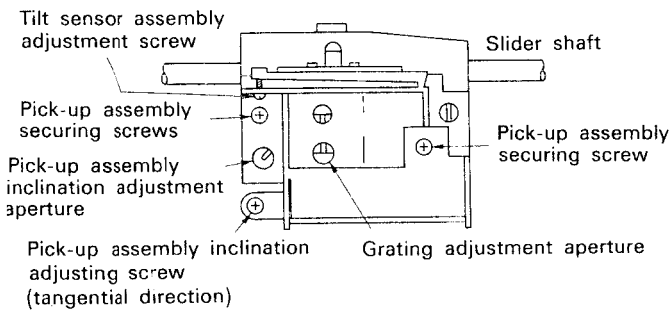

Fig.6-2 Pick-up assembly peripherals.
2. Undo the three mechanism assembly securing screws, the earth of PREB assembly and remove the assembly from the main frame. Check that the pick-up assembly related parts are as indicated in the following diagram (Fig.6-2).
4. Search to frames #104 and #18914 and make sure there's a minimum of crosstalk in both frames. If transient crosstalk appears on screen after adjusting the pick-up assembly inclination, make fine adjustments with the pick-up assembly tangential direction adjustment screw (See Fig.6-2) to minimize crosstalk.